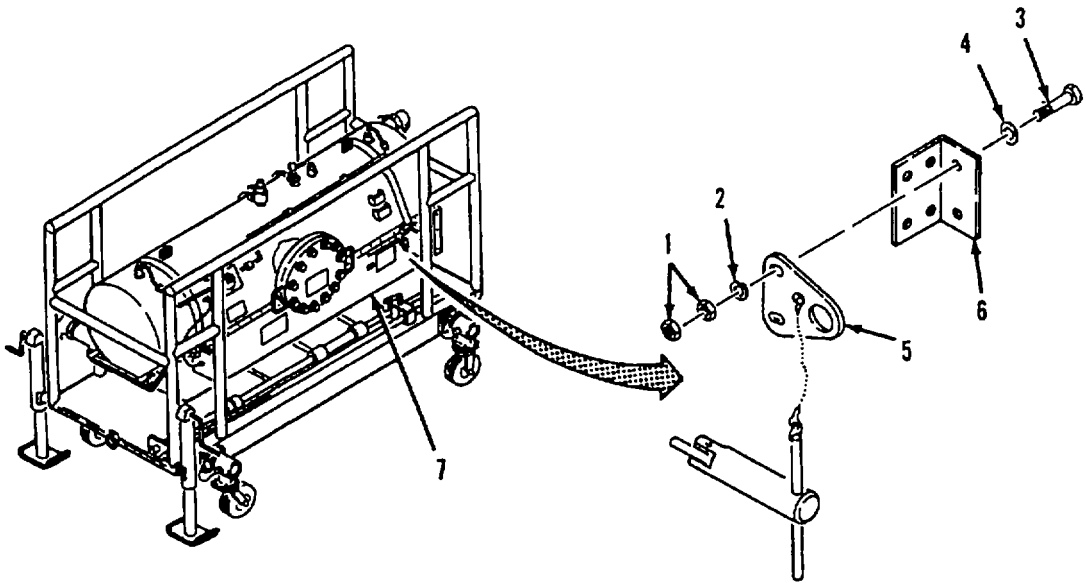

Figure 4-4. Latch Pin and Latch Plate Replacement.
a. **Latch Pin and Latch Plate** Refer to figure 4-4.